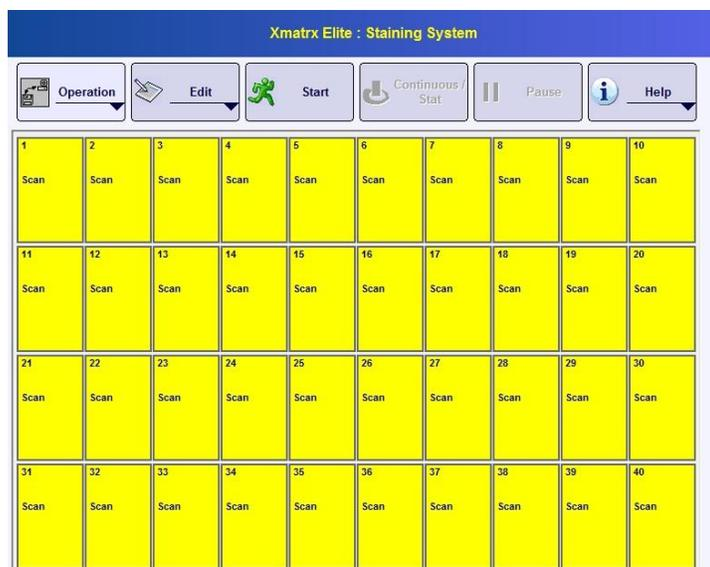

Figure 19: Default Selection of slide Positions for scanning
- a. All slide positions are selected by default (Figure 19) after scanning is done protocol on the Barcode is recognized and marked on the respective slide position or